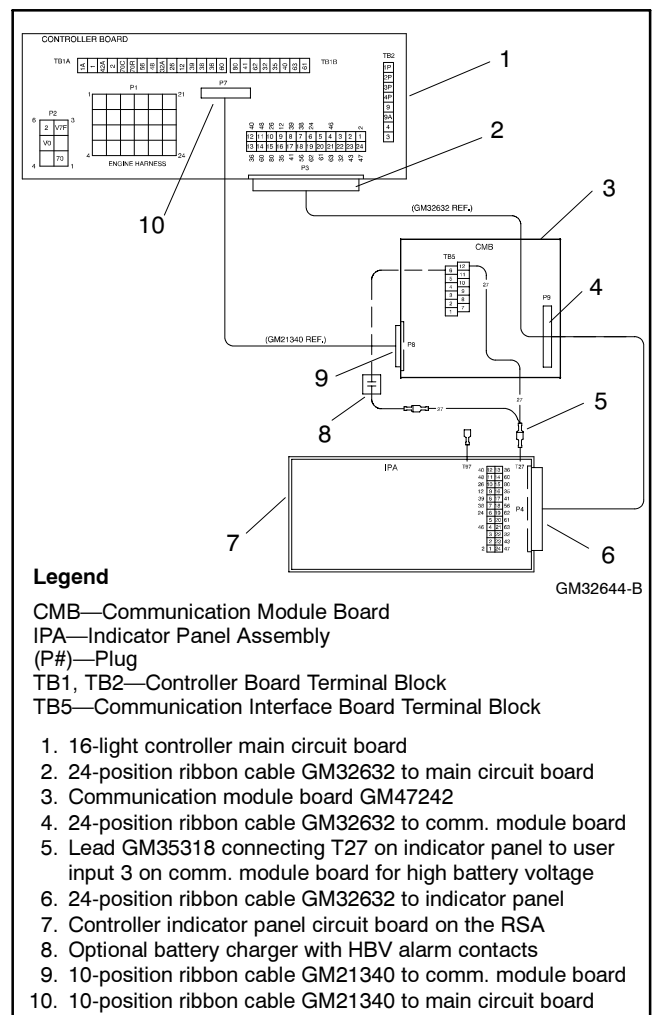
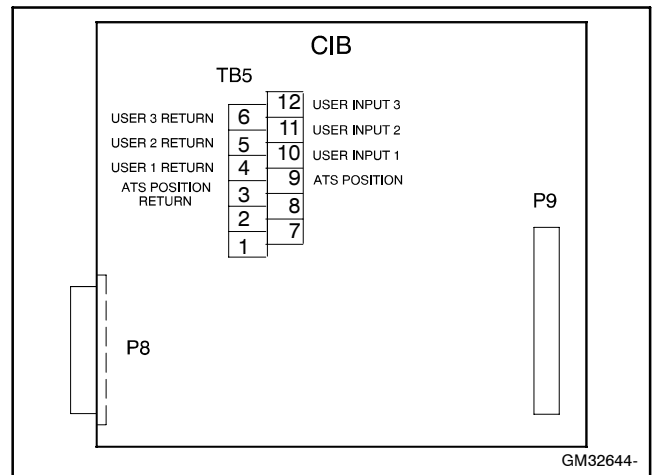

Figure 8 Communication Module Electrical Connections, 16-Light Controller
Figure 10 Communication Module
- 2.1 Connect new 24-position ribbon cable GM32632 to the indicator panel circuit board. See Figure 8. The new ribbon cable has three connectors—one at each end and an inline connector. Attach the end connector (nearest to inline connector) to the indicator panel circuit board. The connectors are polarized and attach in one position only. All ribbon connectors shown in Figure 8 are included in the communication module kit.
- 2.9 **High Battery Voltage.** Locate T27 lead on the indicator panel assembly and connect the communication board HBV harness GM35318. Use the terminal connector on GM35318 with the two leads together. Verify that the stripped end of the harness is securely connected to communication module board terminal TB5-12. See Figure 8 for an illustration of the wiring connection. See Figure 10 and Figure 11 for the communication module board terminal strip location and terminal designations.